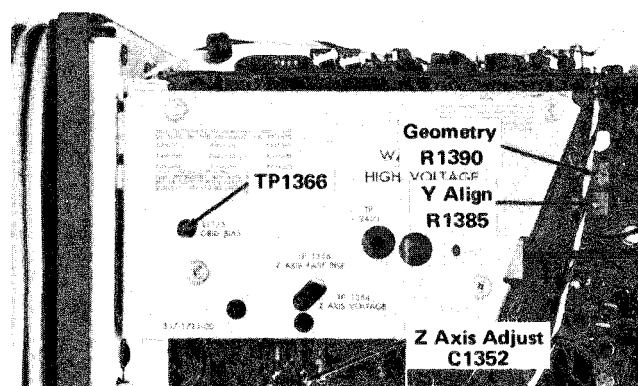

Fig. 5-4. Location of Y-Axis Align, Z-Axis, and Geometry adjustments and test point.
f. ADJUST—Y Axis Alignment adjustment, R1385, (see Fig. 5-4) to align the center time marker with the center vertical line.
b. ADJUST—Geometry adjustment, R1390 (see Fig. 5-4) for minimum curvature of the time markers across the viewing area.
b. Connect the X10 probe from the Test Oscilloscope to TP1366 (see Fig. 5-4).
f. ADJUST—Z-Axis Compensation adjustment, C1 352, using a low capacitance screwdriver, (see Fig. 5-4) for optimum square corner on the unblanking gate.